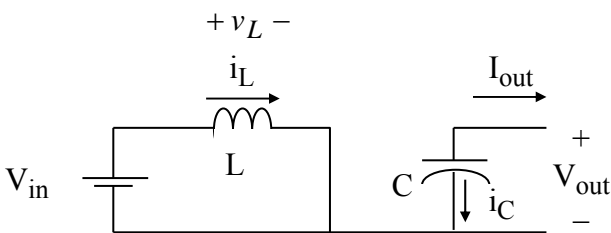

Figure 2a. Switch Closed for DT Seconds
Assuming continuous conduction, the circuit has two topologies: switch closed and switch open as shown in Figures 2a and 2b respectively.
$$\frac{di_L}{dt} = \frac{v_L}{L} = \frac{V_{in}}{L}, \quad 0 \leq t \leq DT, \quad [\text{KVL, from Figure 2a.}] \quad (2)$$
Referring to Figure 2a, when the MOSFET is closed, the diode is subjected to V_{out} . The diode should be conservatively rated $2V_{out}$.